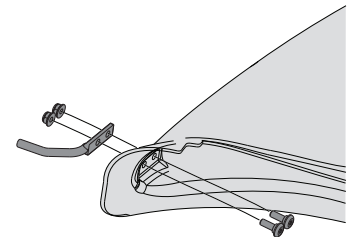

Figure 16
1. From the inside, put the two hex head screws (738-1225), from hardware pack 689-02199, through the holes at the bottom front of the boot. See Figure 16.
2. Put the mounting rod (747-06309) in place over the hex head screws. Make sure the tip of the rod is facing out from the boot. See Figure 16.
3. Begin threading the flange lock nuts (712-04064) onto the hex head screws. See Figure 16.